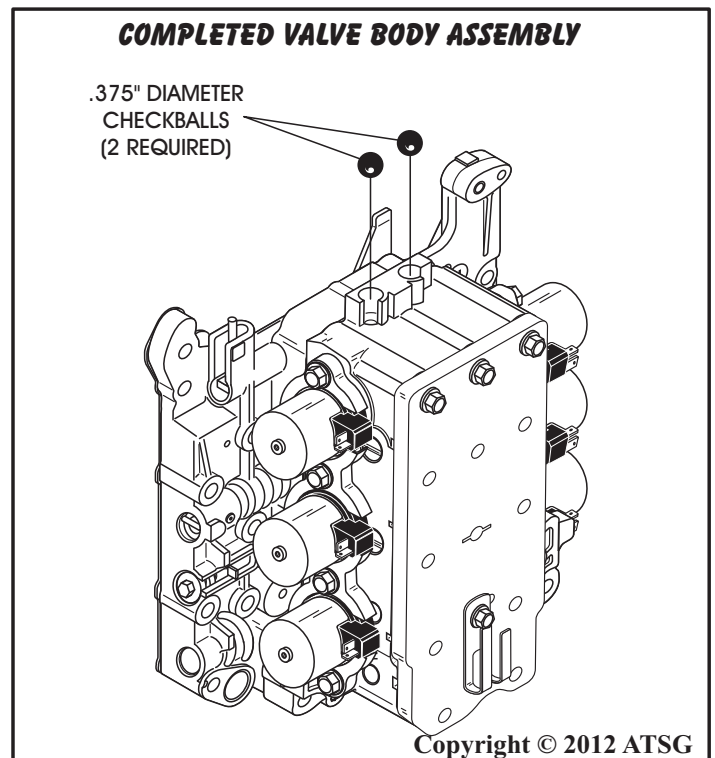

Figure 221
34. Set the completed valve body assembly aside for final assembly process (See Figure 221).